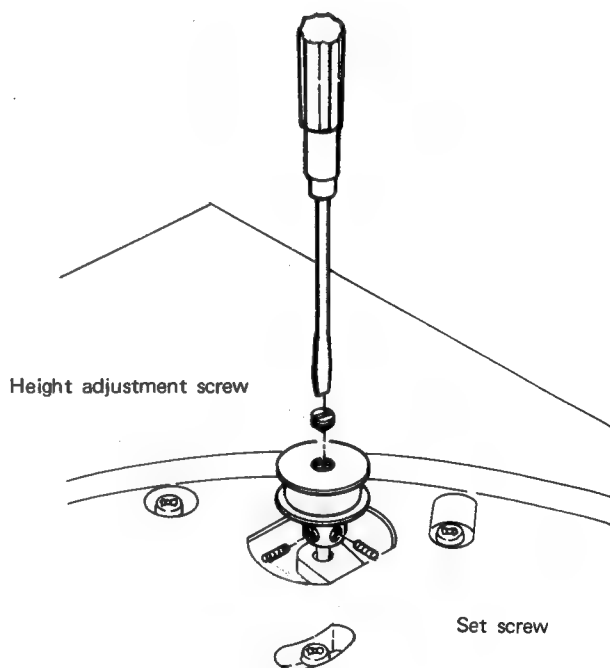

Fig. 3-2 Motor pulley-height adjustment
2. Loosen the two set screws on the motor pulley as shown in Fig. 3-2.
3. Turn the top screw on the motor pulley with a screwdriver to get the specified pulley height as shown in Fig. 3-2. The motor-pulley height between the top of the pulley and the turntable base should be $11/16'' \pm 1/16''$ ($17 \text{ mm} \pm 1 \text{ mm}$).